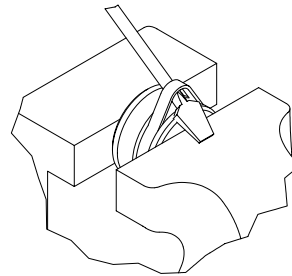

Figure 3-4, Piston Seal
8. Carefully pry up on the piston seals using a blunt tip screw driver being careful not to scratch the seal grooves. Cut the seals to remove from the piston. (Figure 3-4)